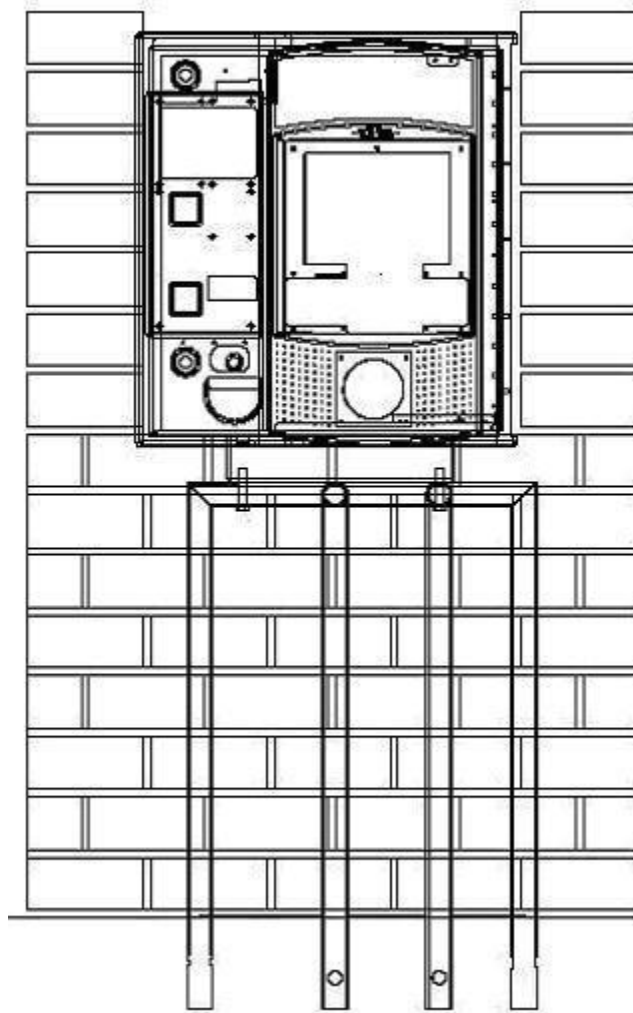

Figure 12. Portal Brick-In with Adaptor Plate on Base Frame
Follow the base installation instructions in section 2.3 to set the base frame in the concrete. The adapter plate attaches to the (3) studs on top of the frame with $\frac{1}{2}$ " nuts and washers. Position the frame so the front of the adapter plate will be recessed 4.5" from the front face of the brick (as shown in Figure 12).